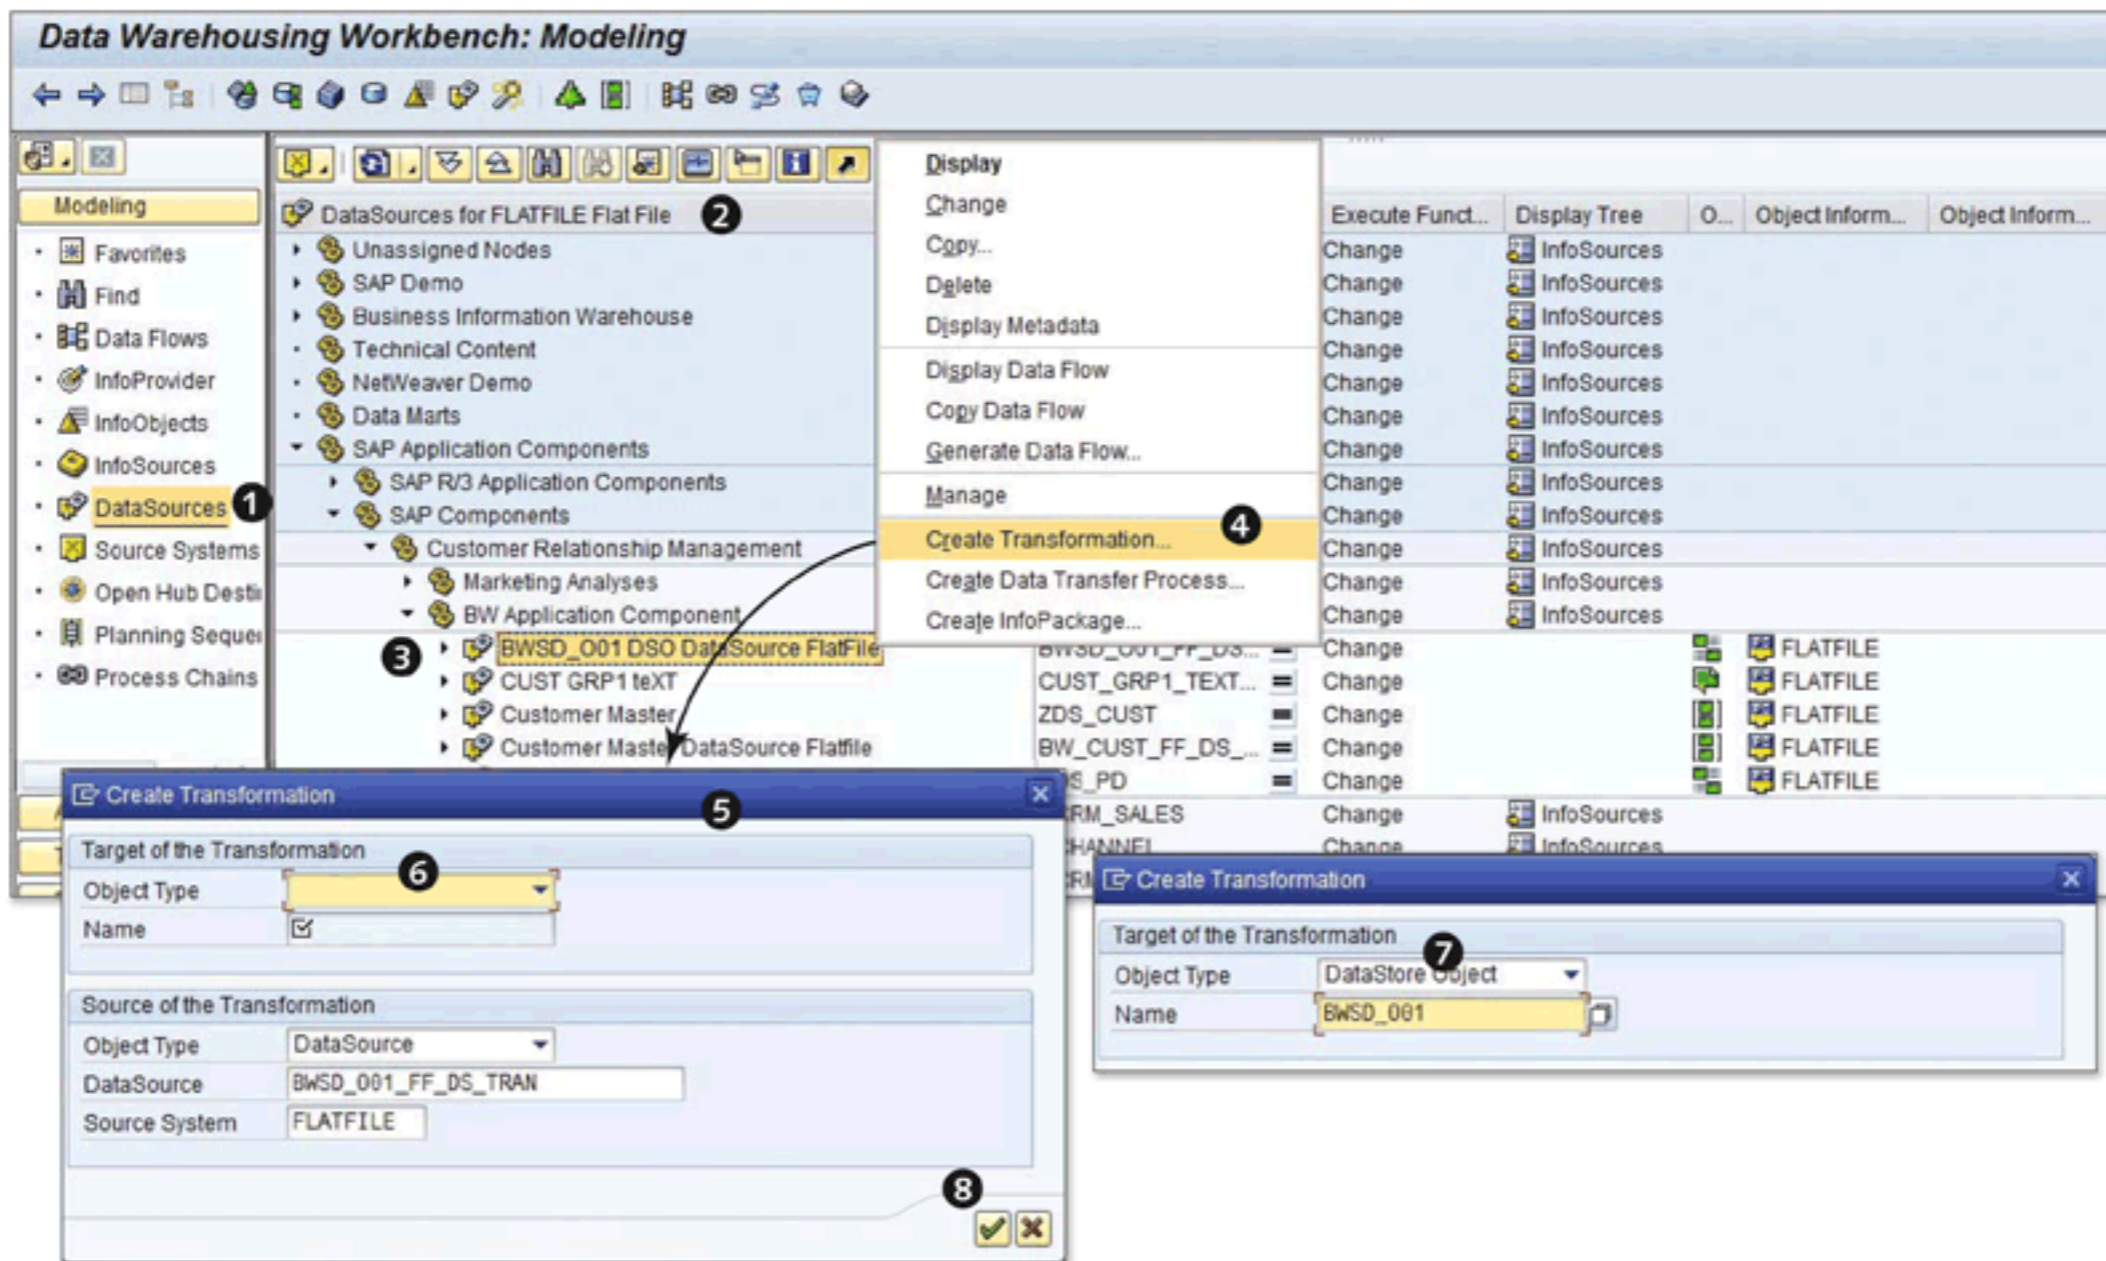

Figure 7.54 Creating a Transformation Between a DataSource and a DSO
From the DWW, select DATASOURCE (❶ of Figure 7.54). Make sure that your DataSource tree is shown for the FLATFILE (❷); if it isn't, refer to Figure 7.6 to fix this. Select DataSource BWSD_O01_FF_DS_TRAN (❸), and, from the context menu, select CREATE TRANSFORMATION (❹). This action results in the CREATE TRANSFORMATION screen (❺). The target of the transformation is blank (❻) because we started the process from the DataSource. Input the target of the transformation as shown in ❼, and click on the CONTINUE icon (❽).